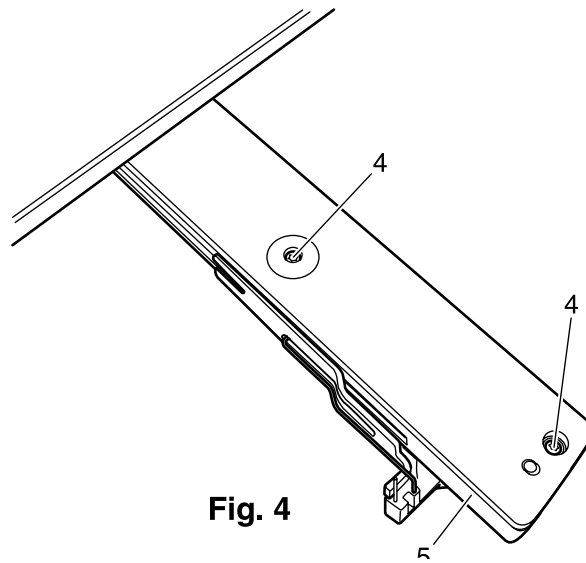

**Fig. 4**
8. Tighten the Torx screws 4 (Fig. 4).